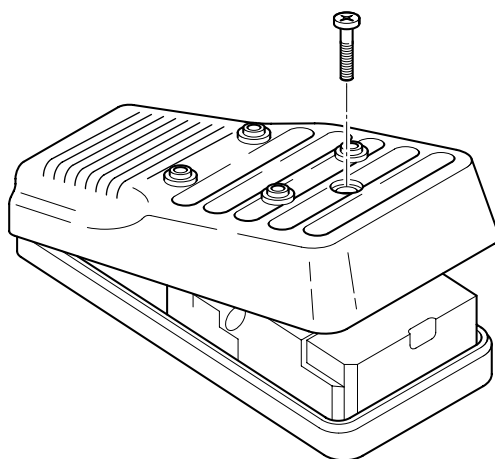

Figure 24: Handsfree cover removal
2. (Figure 24) Remove the front cover from the handsfree assembly by removing the cover securing screw and disconnecting the speaker lead from the handsfree PCB.